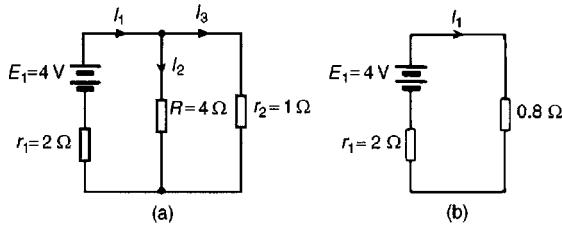
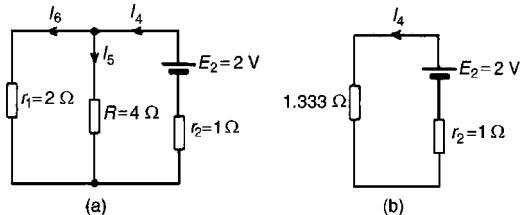
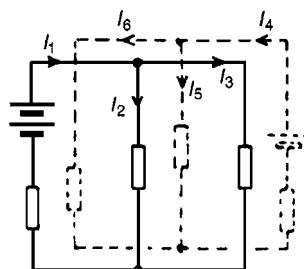

Figure 13.17
Figure 13.18
Figure 13.19
- Redraw the original circuit with source  $E_2$  removed, being replaced by  $r_2$  only, as shown in Fig. 13.17(a)
- Label the currents in each branch and their directions as shown in Fig. 13.17(a) and determine their values. (Note that the choice of current directions depends on the battery polarity, which, by convention is taken as flowing from the positive battery terminal as shown)
From the equivalent circuit of Fig. 13.17(b),
- Redraw the original circuit with source  $E_1$  removed, being replaced by  $r_1$  only, as shown in Fig. 13.18(a)
- Label the currents in each branch and their directions as shown in Fig. 13.18(a) and determine their values.
From the equivalent circuit of Fig. 13.18(b)
From Fig. 13.18(a),
- Superimpose Fig. 13.18(a) on to Fig. 13.17(a) as shown in Fig. 13.19